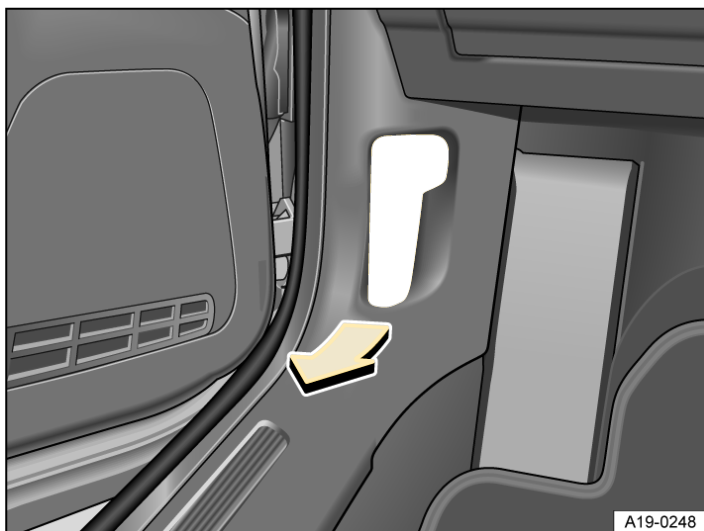

Fig. 1 In the footwell on the driver side: bonnet release lever (schematic diagram).
- Open the driver door and pull the release lever in the direction of arrow → Fig. 1. The bonnet jumps out of the lock on the lock carrier → ⚠.